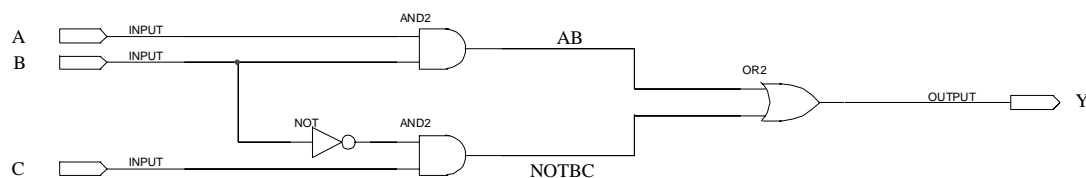

FIGURE 3. SIMPLE COMBINATIONAL CIRCUIT
- Using the Graphic Editor, enter the schematic shown in Figure 3. This circuit is a realization of the simple Boolean expression, $Y = A*B + /B*C$, where "*" indicates the Boolean AND operator, "+" indicates the Boolean OR operator and "/" indicates the Boolean NOT operator. The names of the components needed for the circuit are AND2, NOT, OR2, INPUT and OUTPUT.
- Label the pin names and internal nets as shown in Figure 3.